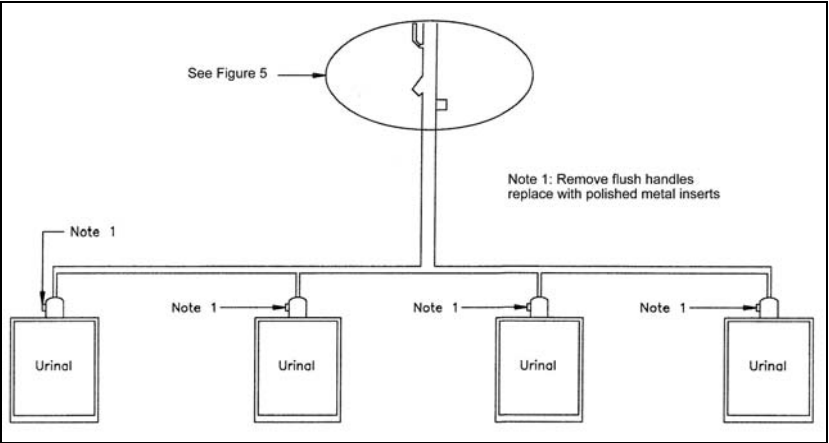

Figure 4: Flush Valve Retrofit
4. Install the shut off valve (in the off position), screen washer (or optional Y strainer), unions and $\frac{3}{4}$ inch solenoid valve. Use reducing fittings if necessary to reduce the existing line to accommodate $\frac{3}{4}$ inch components. See Figures 4 and 5.